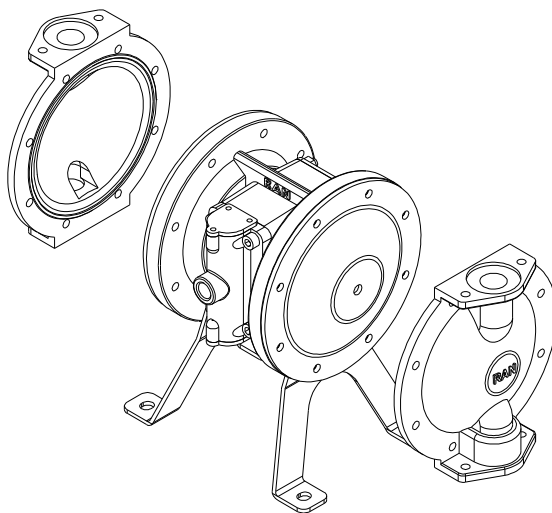

Figure 11- Diaphragm change
3. Using a 5 mm allen key and 10 mm socket wrench, remove the bolts holding the fluid covers the air covers. Pull the fluid covers off the pump. See Fig. 11.